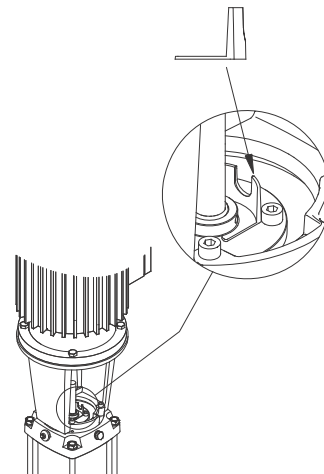

Fig. 19 Coupling adjustment CR, CRN 32, 45 and 64
2. Place the plastic adjusting fork under the cartridge seal collar. See fig. 19.